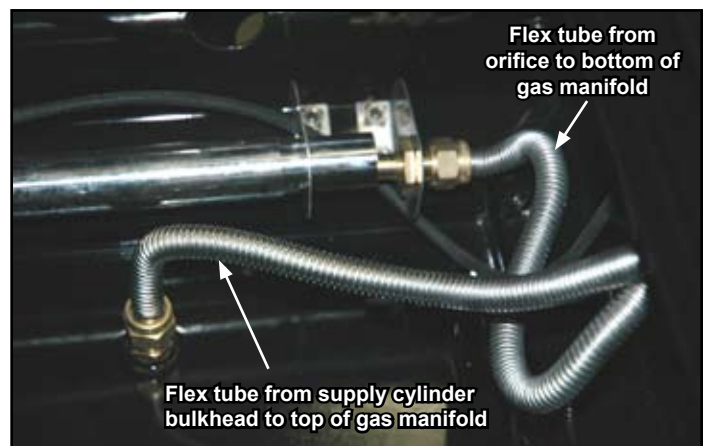

Figure 8
1. Parts/Items Needed: 3/4 inch open-end wrench. See Figure 8.